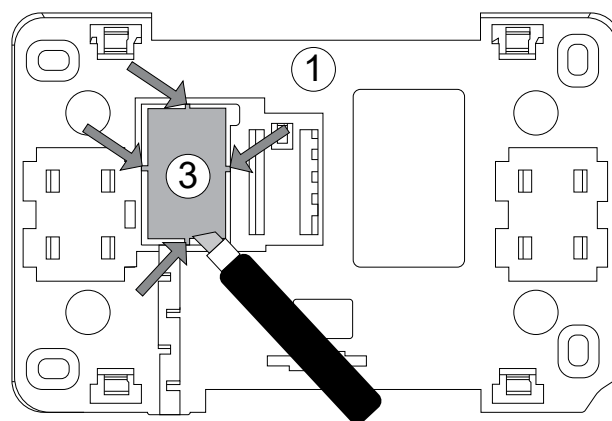

Figure 3-3: Mounting plate cutaway
2. Using a sharp tool cut out holes in four places of the cover for the screw terminals. (See Figure 3-3)